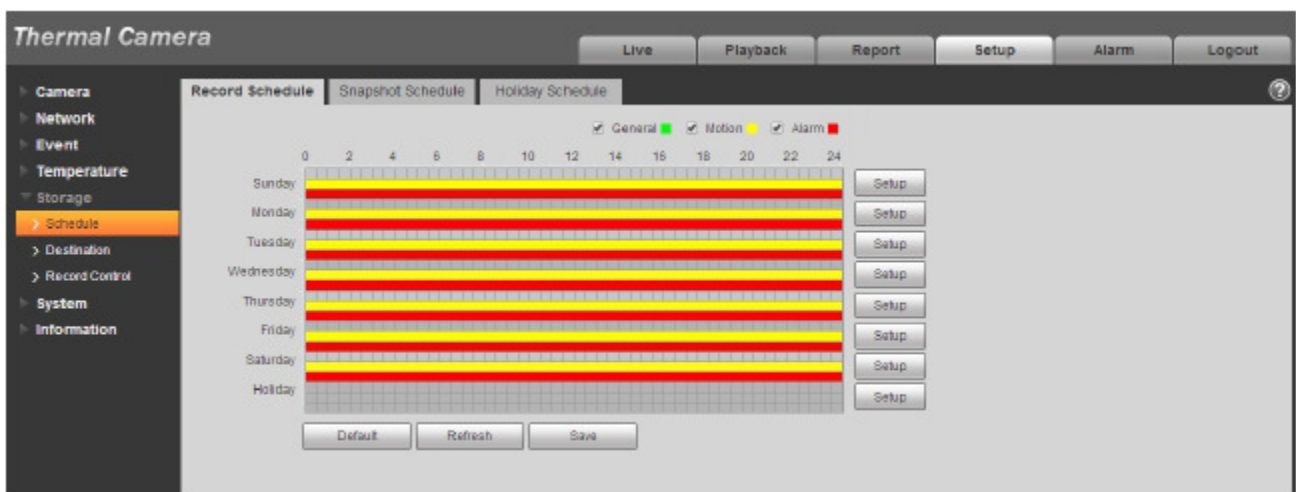

Figure 5-57
Step 1. Click on Record Schedule, see Figure 5-57.